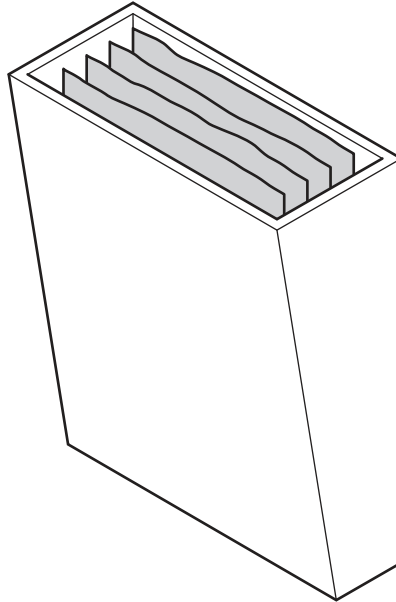

Fig. 7.1
- 7 Fig. 7.1 shows a design for a wall-mounted leaflet holder.
Add sketches and notes to Fig. 7.1 to show a modification to the design that would make it easier to access the leaflets.